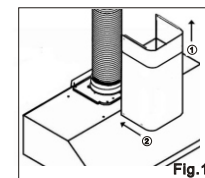

Fig.18
- Slide the inner duct cover up 2 inches before sliding the entire duct cover on the hood. (Fig.18 )